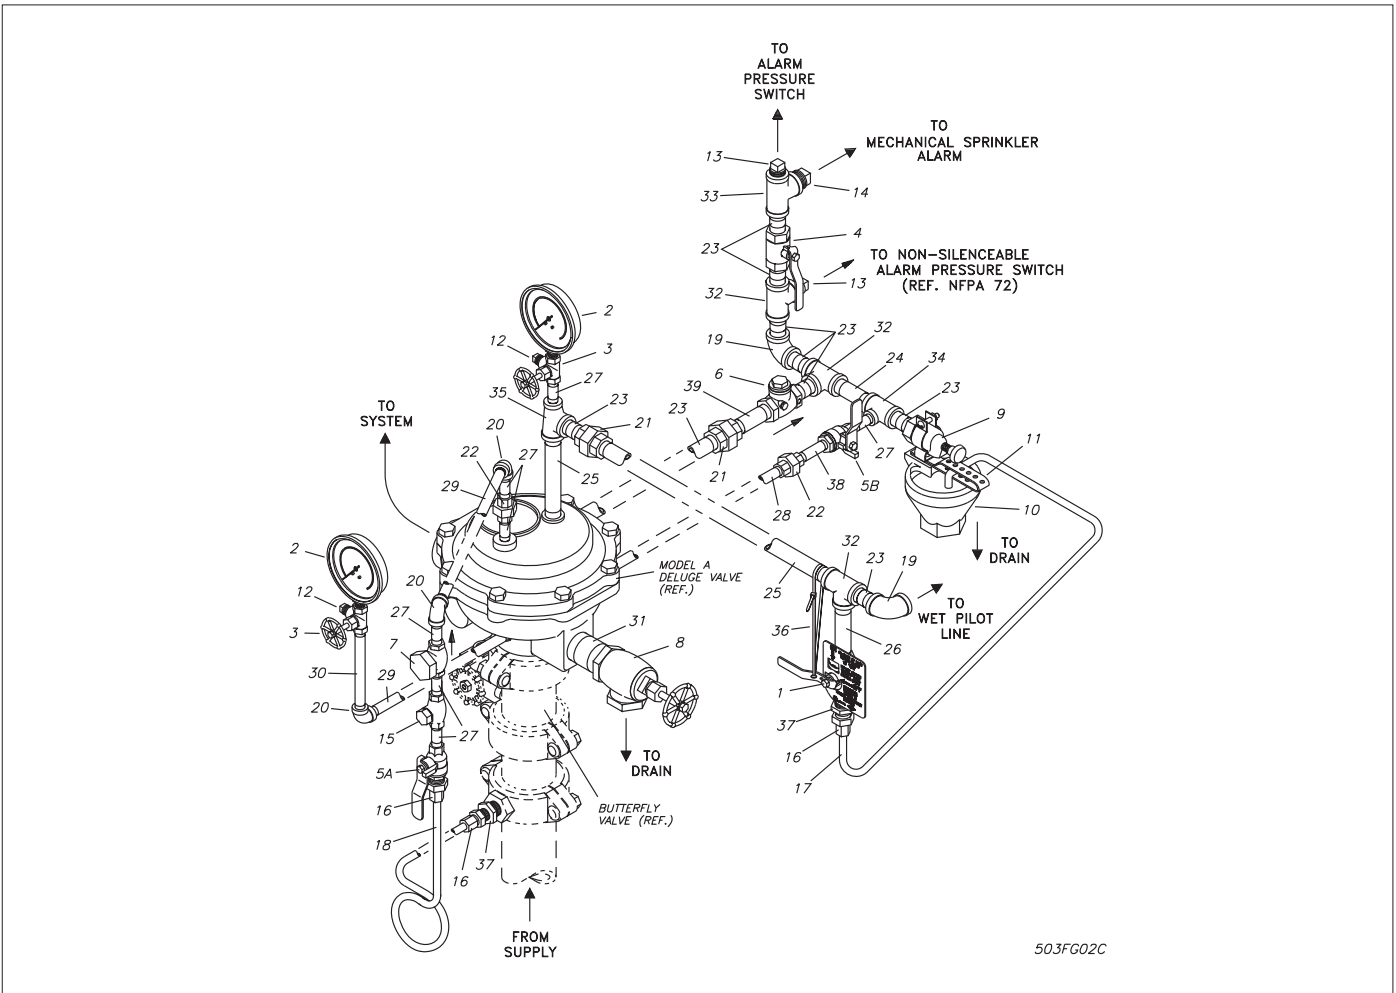
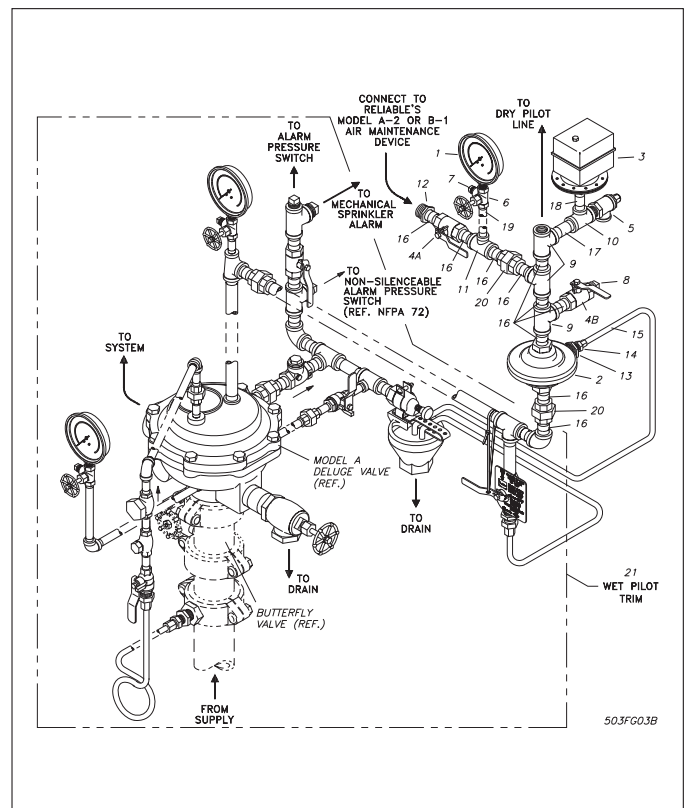

Figure 2 — Wet Pilot Line Trim
Figure 3 — Dry Pilot Line Trim
The Wet Pilot Trim set (Figure 2) is used with every Model A Deluge Valve, providing the 1¼" main drain, the alarm, the alarm test and the supply pressure gauge connections. Connected to the top chamber outlet, this trim set is used when pilot line detectors (Model PLD) and hydraulic manual emergency stations/pull boxes (Models A & B) are used for actuation. The set includes a gauge to read top chamber pressure, an indicating ball valve for manual operation of the deluge valve, and a connection for the actuation devices.
The Model B Hydraulic Manual Emergency Station (Figure 6) is standard, consisting of an aluminum nameplate mechanically attached to a ball valve. The valve handle in its OFF position is guarded against accidental turning to the ON position (and system discharge) by a nylon cable tie provided with the Wet Pilot Trim kit. The cable tie is inserted as shown in Figure 2 after the system has been restored for operation. The nylon cable tie is designed to allow, in case of an emergency, forceful turning of the valve handle to the "ON" position.
Wet pilot line operation is the simplest method of deluge valve actuation. The trim is a basic one that is required on all Reliable Model A Deluge Valves regardless of application. Shown in Figure 2, it contains components required on all installations, such as 1¼" main drain, alarm, alarm test and top chamber supply connections. The deluge valve has 6 tapped openings for the attachment of the trimmings. Each opening is marked on the valve to indicate its use. The wet pilot line consists of a line of closed sprinklers located over the area to be protected. This line contains water un-
- e. NFPA 72 or the authority having jurisdiction, should be consulted for pilot line detector spacing. The recommended trim installation is as follows (Figure 2):
1. Install ¼" Nipple (28) in tapped opening marked "TEST".
2. Install ½" Nipple (23) in tapped opening marked "ALARM" and connect balance of this trim line. Check Valve (6) must be installed as indicated in Figure 2 to allow flow from the deluge valve to alarm devices.
3. Install ¼" Nipple (29) in tapped opening marked "SUPPLY" and connect balance of this trim line.
4. Install ½" Nipple (25) in tapped opening marked "OUT" and connect balance of this trim line.
5. Install ¼" Nipple (27) in tapped opening marked "IN" and connect balance of this trim line. Item 37 must be connected to the inlet of the individual control valve for each deluge valve as shown.
6. Install 1¼" Nipple (31) in tapped drain opening and connect balance of this trim line.
The Dry Pilot Trim includes a gauge to read the air pressure, a low air pressure warning switch, an air relief valve, the dry pilot line actuator and connections for the dry pilot line of sprinklers. Refer to Figure 3 for installation of the Dry Pilot Trim. Connect the air supply to the air inlet side of the dry pilot line actuator as shown in Figure 3. Table 2 specifies the air pressure to be used in a dry pilot line. The relieving pressure is adjusted by removing the cap nut on the top of the Relief Valve (5), and turning the now exposed slotted adjusting screw clockwise to increase pressure or counterclockwise to reduce it. Replace the cap nut after the correct pressure setting has been made at 5 psi above the maximum pilot line pressure required by Table 2. An appropriate automatic air maintenance device must be used to safeguard against valve tripping due to air pressure leaks in the dry pilot line. See Bulletin 250 and 251 for Air Maintenance Device information. Install Dry Pilot Line as required. Wire the Low Air Pressure Switch (3) to an annunciating device or control panel. The pressure switch is factory set to close a circuit at 25 psi.
Refer to Figures 2 & 3
2. Open Main Drain Valve (8, Fig. 2) and drain system.
3. Open all drain valves and vents at low points throughout the system, closing them when flow of water has stopped. Close Valve (5A, Fig. 2) and (4A, Fig. 3). Open Valve (1, Fig. 2) and (4B, Fig. 3).
4. Push in the plunger of Ball Drip Valve (9, Fig. 2), forcing the ball from its seat to verify there is atmospheric pressure inside the main valve chamber.
6. Open Valve (5A, Fig. 2) and (4A, Fig. 3) and allow water to fill the chamber. Close Valve (1, Fig. 2) and (4B, Fig. 3).
- b. **Dry Pilot Trim** — allow water to flow through the pilot line actuator, then rapidly apply air pressure into the dry pilot line until it conforms to Table 2, as indicated on Air Pressure Gauge (1, Fig. 3).
8. Check that Valve (5B, Fig. 2) is closed. Open slightly the valve controlling water supply to the deluge valve, closing Main Drain Valve (8, Fig. 2) when water flows. Observe if water leaks through Ball Drip Valve (9, Fig. 2) into Drip Cup (10, Fig. 2). If no leak occurs, the water seat is tight. Open slowly but fully the valve controlling water supply to the deluge valve and seal in the open position.
9. Valve (5A, Fig. 2) must remain open when the deluge valve has been reset, to maintain water pressure in the top chamber.
3. **Other trimming valves** — check that Valves (3, Fig. 2) are opened and Valves (1, 5B, Fig. 2) and (4B, Fig. 3) are closed.
- b. **Dry Pilot Trim**—remove the plug and open Valve (4B, Fig. 3).
- c. Open Valve (5A, Fig. 2) and close Valve (1, Fig.2) and (4B, Fig. 3). If water flows from the ball drip valve (9, Fig.2), the Diaphragm (7) is leaking and must be replaced. Proceed as follows:
1. Close Valve (5A, Fig. 2) and open Valve (1, Fig. 2) or (4A, Fig. 3).
2. Break the trim at the unions. Remove all 8 Cover Bolts (10).
4. Remove the assembled Piston (5) and Diaphragm (7).
5. Remove 8 Screws (6) holding the Diaphragm Clamping Ring (8). Remove the Clamping Ring (8) and the Diaphragm (7).
6. Install a new Diaphragm (7) with the cone shape facing away from the Piston (5) face. Install the Clamping Ring (8) and Screws (6) and alternately tighten the screws until the clamping ring is metal to metal tight to the piston.
7. Install the assembled piston and the diaphragm in the body. Install the cover and align the diaphragm "O" ring end to fit the Body (1) and Cover (2) grooves.
8. Install the 8 Cover Bolts (10), alternately tightening until the cover has metal to metal contact with the body.